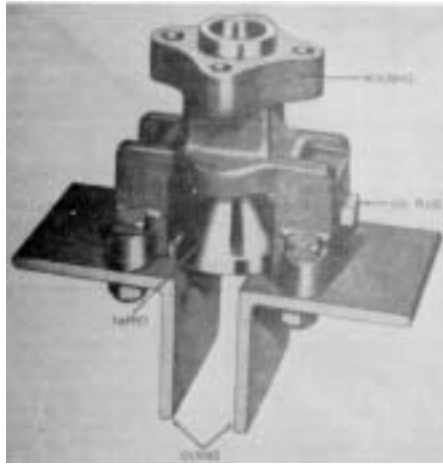

Figure 63. Sheetting driver.
The two piston-type paving breakers (fig. 62) are designed for general duty demolition and wall breaking. The throttle lever is conveniently located at the handle, which is equipped with rubber grips. The following attachments are provided with the paving breakers: one sheeting driver (fig. 63), four moil points, two cutting chisels, one tamping rod and one tamping pad. When not in use, the paving breakers and their attachments are stored in the engine side tool box.
a. Attach the tool to be used to the paving breaker. Themoil point, chisel and tamping rod are inserted up into the breaker and are locked in with the retainer latch (fig. 62). When the sheeting driver (fig. 63) is to be used, the chuck housing (fig. 62) and tappet seat must be removed and the sheeting driver installed.
a. *Lubrication.* It is vitally important that the paving breaker (fig. 62) and sheeting driver (fig. 63) be well lubricated at all times. Always fill the oil reservoir before starting operations, and check the oil supply frequently, refilling whenever necessary. Wipe off the oil plugs before removing them to fill the oil reservoirs. Below 32° F. use engine oil, OE--10 or OHA; above 32° F., use OE 30.
b. *Preparing for Storage.* To prevent the internal parts of the paving breaker (fig. 62) and sheeting driver (fig. 63) from rusting while in storage, the following procedure is recommended.
- (1) Flush the paving breaker and sheeting driver with cleaning solvent to remove grit, dirt and other foreign matter.
- (2) Flush the paving breaker and sheeting driver with light machine oil to lubricate internal parts.
- (3) Wedge a cloth plug into the air connection and exhaust openings of the paving breaker to prevent dust from entering while the tool is in storage. Wedge a cloth plug into the open end of the housing on the sheeting driver for the same reason.
- (4) Store the paving breaker and sheeting driver in its appropriate place in the engine side tool box.